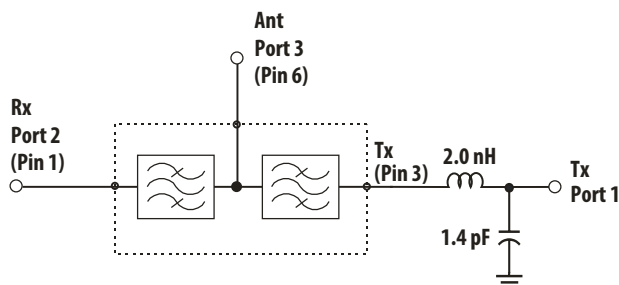

Figure 1. Tx Matching
Ant, Rx $Z_0 = 50\ \Omega$, Tx port includes matching to $50\ \Omega$ as shown in Figure 1.
- Tx port includes matching to $50\ \Omega$ as shown in Figure 1.
4. Tx port includes matching to $50\ \Omega$ as shown in Figure 1.
The performance of the ACMD-6103 duplexer is specified using the simple, 2-element external Tx matching circuit shown in Figure 1.
ACMD-6103 (Ant, Rx $Z_0 = 50 \Omega$, Tx port includes matching to 50Ω as shown in Figure 1)